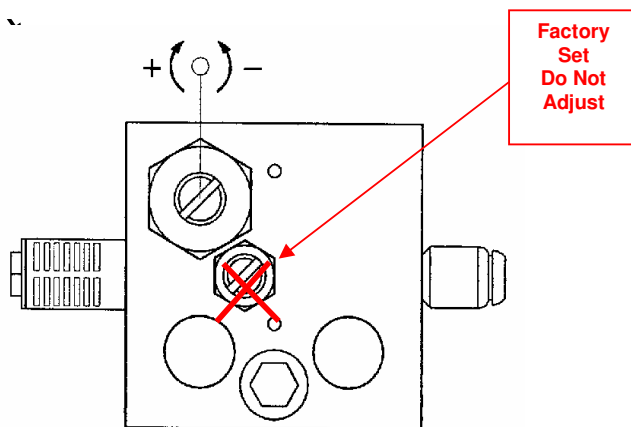

FIGURE 2
1. The pressure at which the lift axle must lower (PL) is dependent on the axle lowering transition mass (TM) required. The transition mass is a function of the vehicle configuration, suspension geometry, and legislation. The first step is to determine the automatic drop pressure. See Annex A for a summary of lowering transition mass/load pressure relationships for current Hendrickson trailer suspensions.
e.g. A tri-axle trailer fitted with HT230 and a single lift axle with a transition mass of 13,000kg will have automatic drop pressure (PL) of 60psi.
2. The automatic drop pressure adjustment screw is shown below (Figure 2). With the regulation screw in the minimum pressure position (nut level, 12mm screw inside), the automatic drop pressure will be adjusted to approximately 33psi.